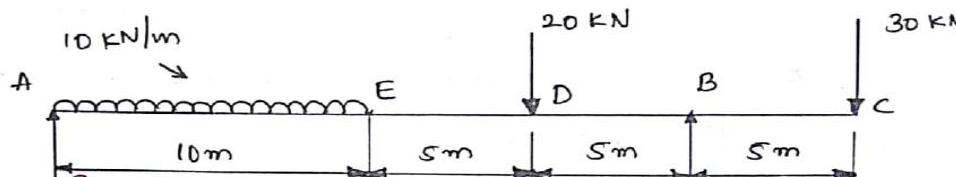

Fig. 1
- 1 A beam 25 m long is supported at A and B and is loaded as shown in fig. 1. Draw SFD and BMD for the beam. Find the position and magnitude of the maximum bending moment. Also determine the point of contraflexure.